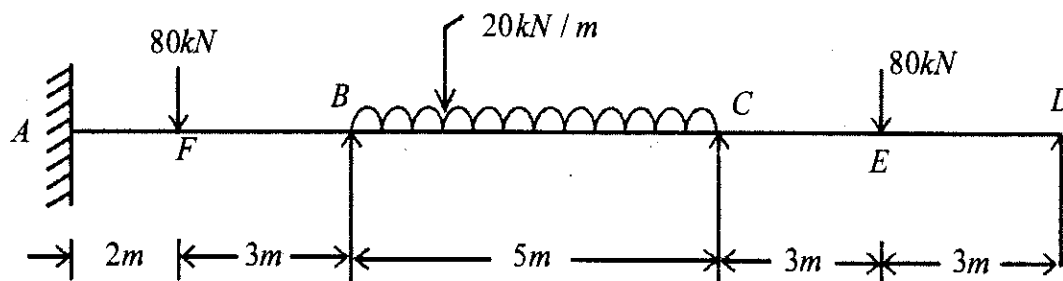

Fig.3
- Q.3 Using Clapeyron's theorem of three moments, analyse a continuous beam shown in Fig.3. Also plot BMD and SFD indicating principal values, the supports of the beam being at same level. [16]